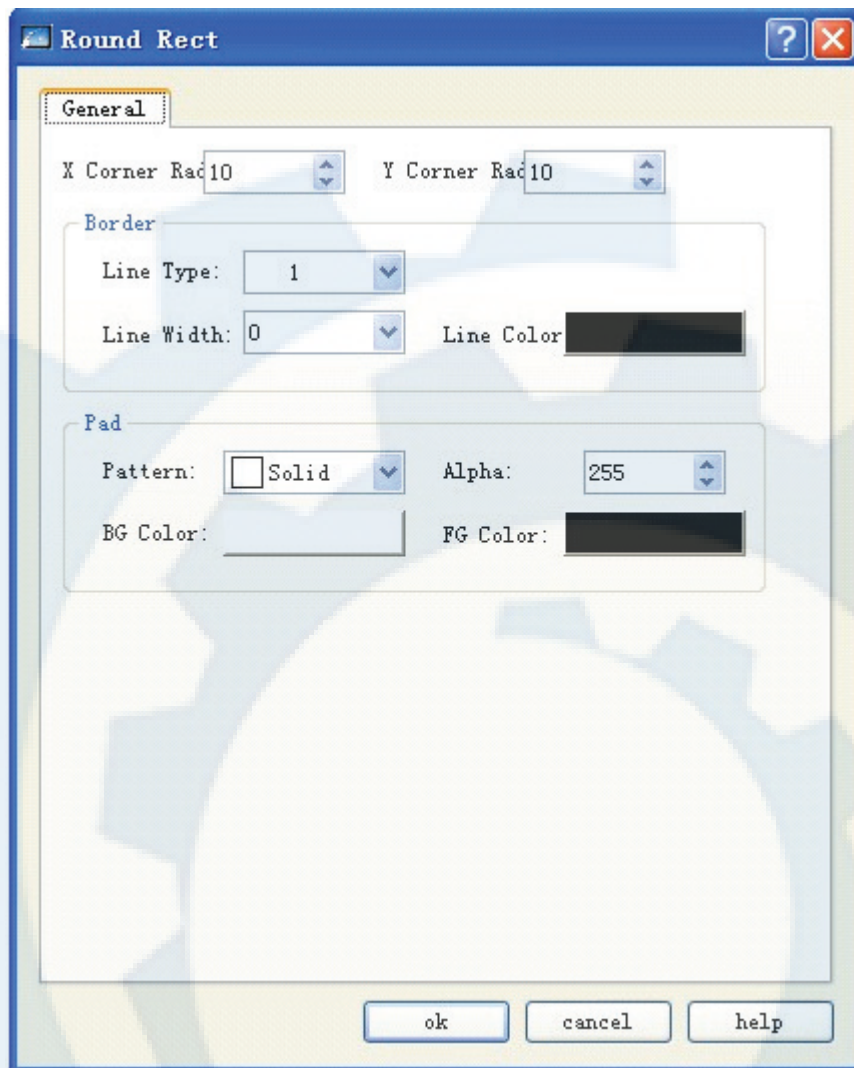

Figure 4-31: Rounded rectangle property dialog
- After completing the above steps, the rectangle has default settings in transparency, line type, line width, line color, and filling pattern. You can modify these settings basing on actual needs. To do this, move the mouse onto the rectangle and double click, or click Properties button  in the tool bar after choosing the rectangle. At this moment, a property dialog similar to that in rectangle drawing will appear. See Figure 4-31: